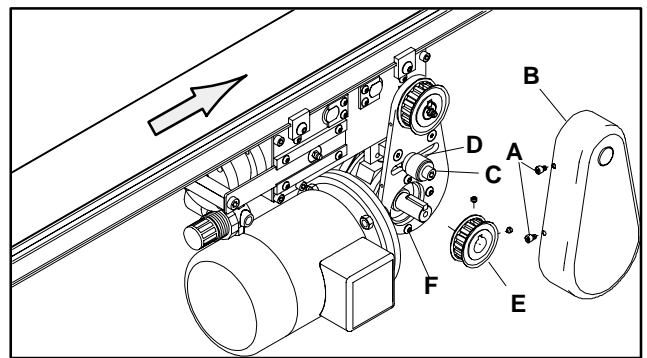

Figure 2
1. Detach the belt guard (B of Figure 2) by removing and retaining the two (2) M4 x 6 mm socket head cap screws (A) on each side of the guard.
2. Release timing belt tension by loosening the M8 x 40 mm socket head cap screw (C) and sliding the belt tensioning roller assembly (D) away from the belt. With tension released, the timing belt and drive pulley can be removed.
3. Disassemble the drive pulley (E) by loosening the pulley set screws or Taper Lock[®] bushing set screws, securing either assembly to the gear reducer shaft.